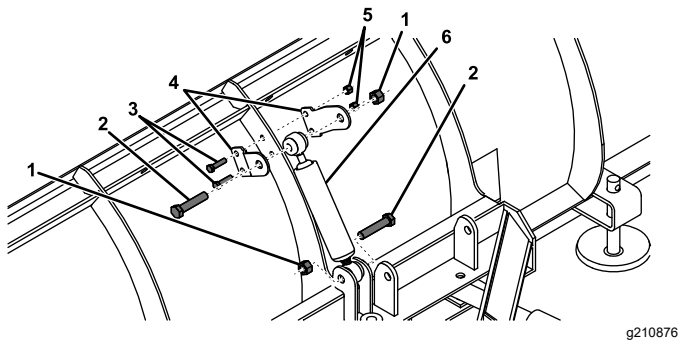

Figure 6
4. If you have a super-duty plow, secure the end of the shock absorber to the push-frame assembly using a bolt (5/8 x 3 inches) and locknut as shown in Figure 6.
5. Attach the blade shock-mount to the top of the shock absorber using a bolt (5/8 inch) and locknut as shown in Figure 6.
6. Slot the blade shock-mount onto the center rib of the plow and secure it using 2 bolts (3/8 x 1-1/2 inches) and locknuts (Figure 6).
7. Extend the shock absorber so that 6 mm (1/4 inch) of the rod is visible (Figure 6).